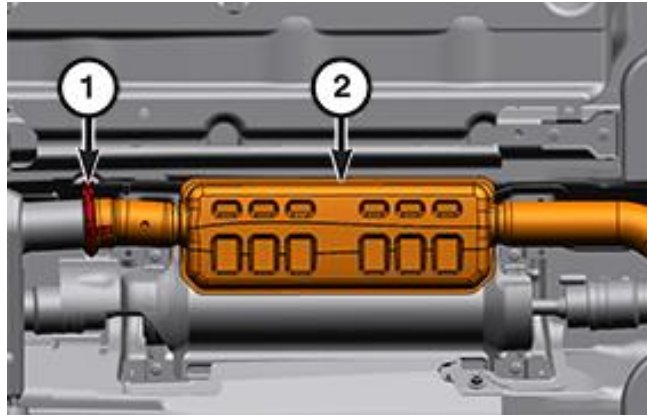

Figure 36 – Resonator
- b. Loosen the exhaust clamp nut (1) securing the resonator (2) to the crossunder pipe (Figure 36).